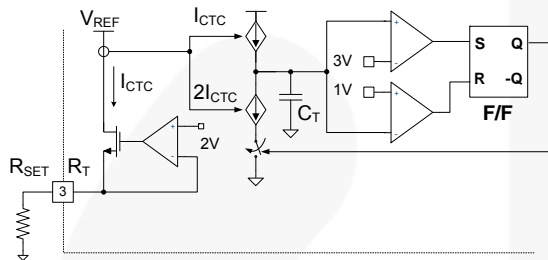

Figure 17. Current Controlled Oscillator
1. Internal Oscillator: FSFA2100 employs a current-controlled oscillator as shown in Figure 17. Internally, the voltage of the R_T pin is regulated at 2 V and the charging/discharging current for the oscillator capacitor C_T is determined by the current flowing out of the R_T pin (I_{CTC}). When the R_T pin is pulled down to the ground with a resistor R_{SET} , the switching frequency is fixed as: